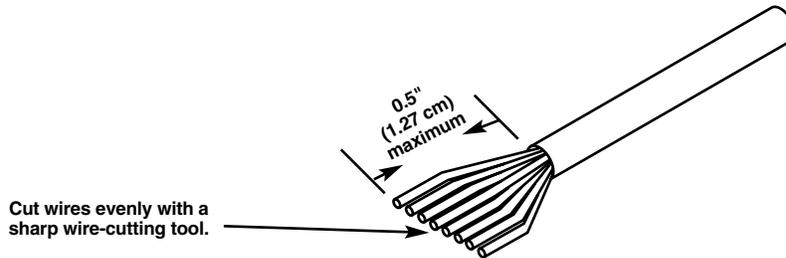

Figure 1. Making sure the wires are cut evenly.
- Strip the cable so that the wires are exposed. If they aren't already evenly cut, cut the row of wires (see Figure 1). Position the wires in front of the connector in the proper wiring configuration (see Table 1).